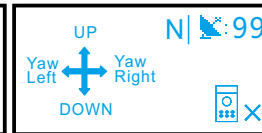

Figure 10-4: Unconnected
- If the drone is not connected,it will display as shown in Figure 10-4,and operation will not be possible at this time.